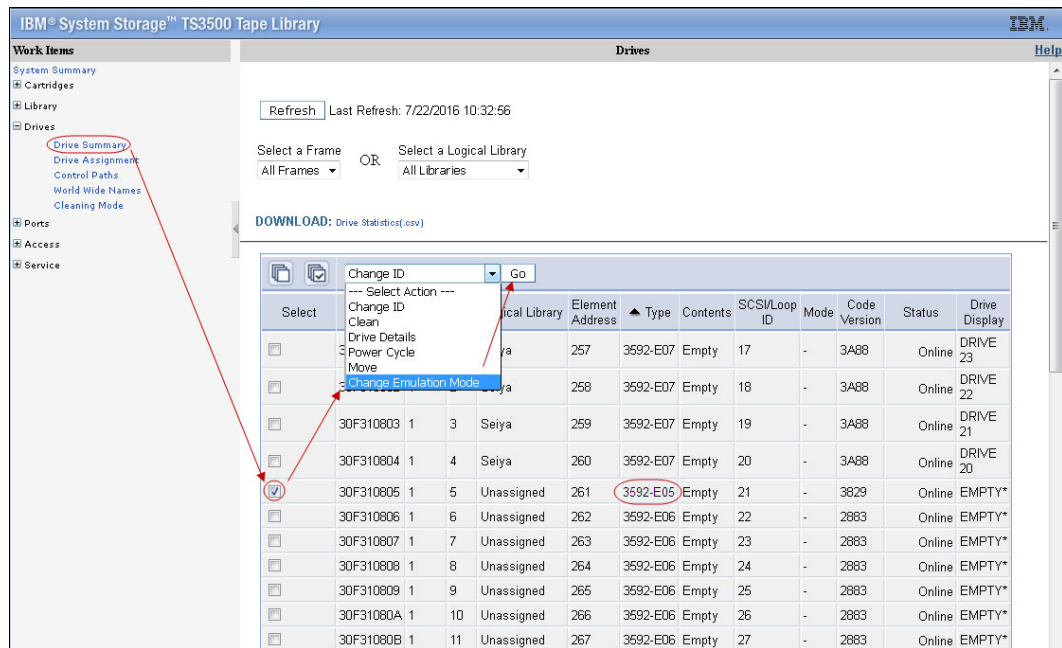

Figure 9-92 Change the drive emulation
- If necessary, change the drive mode to Native mode (3592-E05 only). In the Drives summary window, select a drive and select **Change Emulation Mode**, as shown in Figure 9-92.